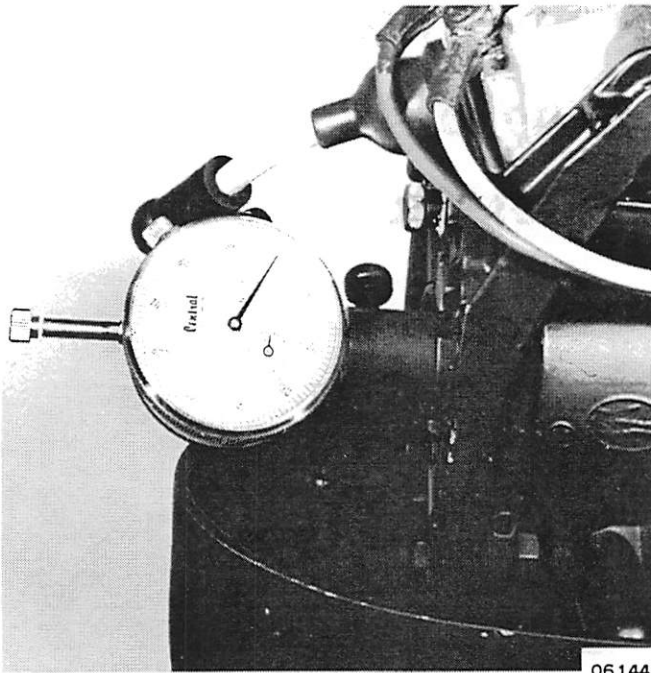

Figure 3. Dial Indicator Installed - Merc 40
6. Remove spark plug and install Dial Indicator (C-91-58222). (Figure 3)
8. Rotate crankshaft clockwise to determine TDC of piston and set dial indicator at 0°. (Figure 3)